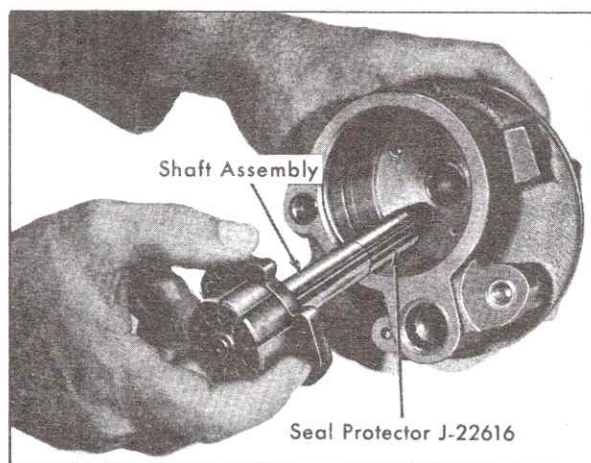

Fig. 9-17 Installing Pump Shaft Assembly
7. Insert drive shaft with thrust plate and rotor into housing, using Seal Protector, J-22616, Fig. 9-17. Make sure that shaft is properly seated.